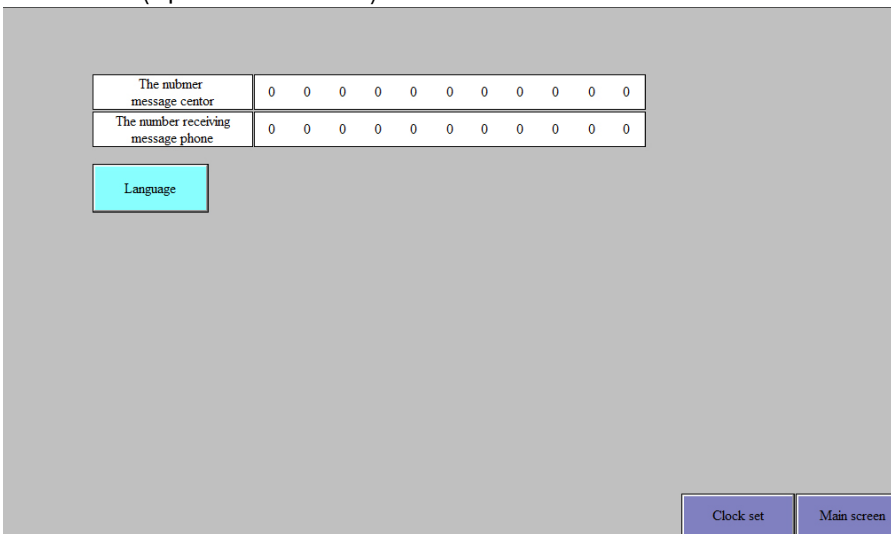

Fig 18
6.2.2.6、 Click the application setting button to enter the setting interface (Figure 18), set the user's local SMS center number (a mobile card needs to be configured) and the user's mobile number to receive the SMS. When the device fails, the fault information will be sent to the user's mobile phone in real time, to eliminate the fault in time and minimize the impact on the tissue (optional function)